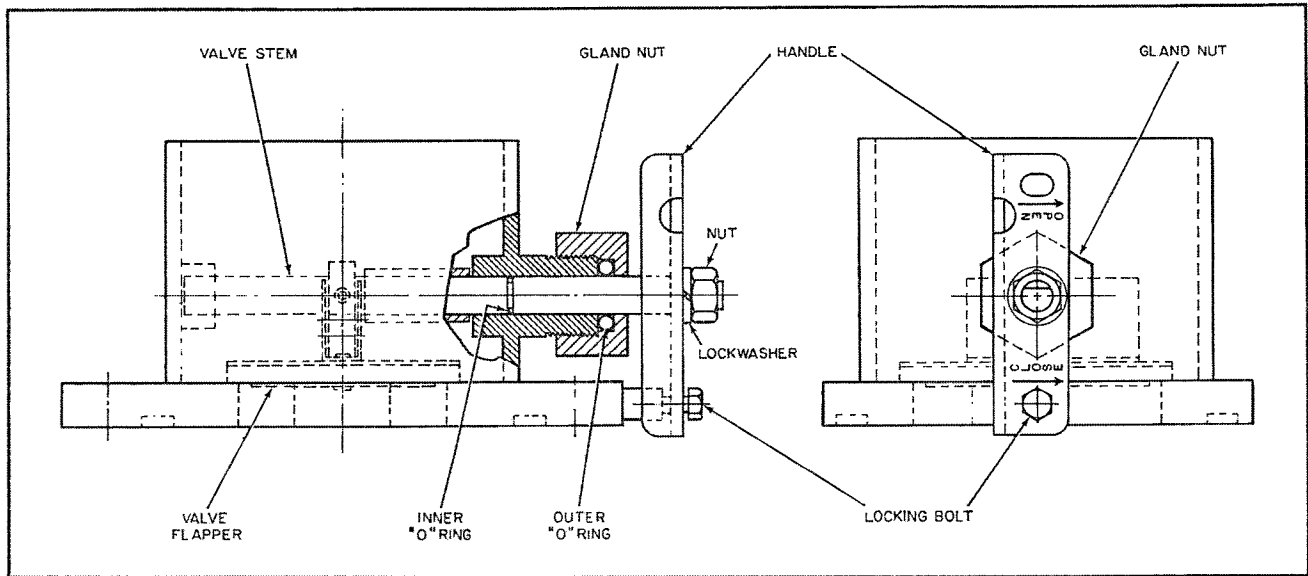

Fig. 4 Location of Replaceable Outer "O" Ring on Cam Action Radiator Valve
Double "O" ring gaskets are located around the operating shaft to make it pressure tight as shown in Fig. 4. The steel disc flapper has a resilient flat gasket which seals against the inside of the flange in the closed position. The valve flapper is opened and closed by positive toggle and cam action which prevents excessive force from being applied to the operating mechanism.
Maintenance is not normally required. An inspection should be made at least once a year to detect any abnormal condition. The packing around the shaft consists of a double "O" ring seal. (See Fig. 4) The outer seal is squeezed to a predetermined compression by the gland nut and is limited by an internal shoulder which is machined in the nut. If the gland nut should loosen, it should be retightened against the shoulder but not forced beyond that point. The inner seal is intended as a secondary seal to limit seepage such that the outer seal can be replaced without draining the transformer. If an oil leak should ever develop around the valve shaft and
- a) Remove the hex nut and lockwasher from the end of the handle. (Reference Fig. 4)